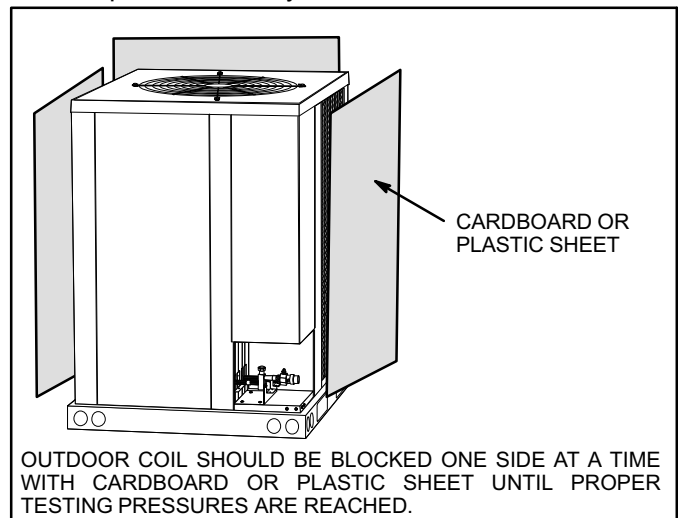

Figure 4. Blocking Outdoor Coil
1. When the outdoor ambient temperature is below 65F (18C) it may be necessary to restrict the air flow through the outdoor coil to achieve liquid pressures in the 325-375 psig (2240-2585 kPa) range. These higher pressures are necessary for checking the charge. Block equal sections of the outdoor coil on all coil sides until the liquid pressure is in the 325-375 psig range (figure 4).